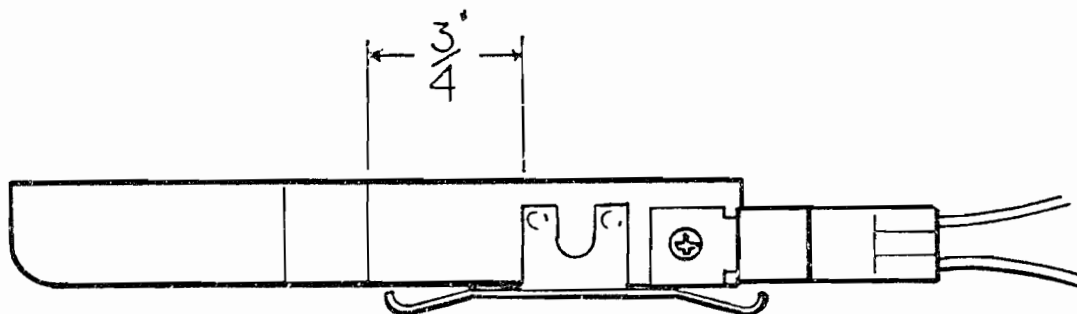

Fig. 2
- () a. Solder the ground contact to the electrical shield near the front of the board, as shown in the diagram below, Fig. 2.